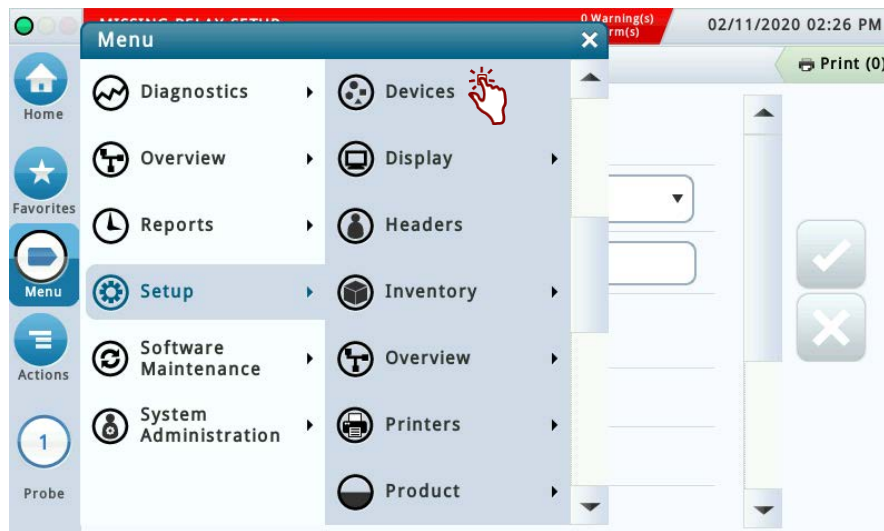

Figure 3. Accessing Device Setup
1. Touch the Devices selection (Figure 3).